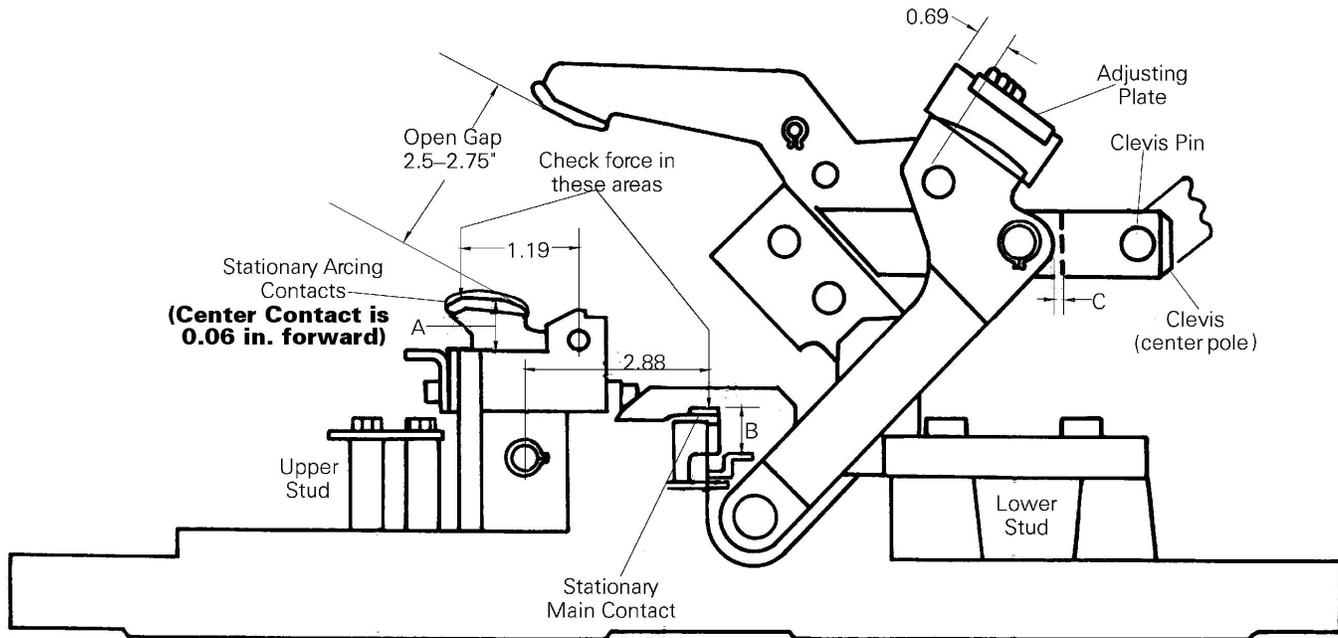

Figure 24. Measuring contact force and adjusting contact wipe.
5. Set the cross bar to the 0.69 dimension shown in Figure 24. Check that all three poles of the movable arcing contacts are touching the stationary arcing contacts to within .03 inch.
Place a push scale on the stationary arcing contact at a point 1.19 inch from the contact pivot, as illustrated in Figure 24, and depress the contact 0.25 inch. The load on the scale should be within the range listed in Table 5. If the load is not within the correct range, replace the spring under that contact assembly.
Place a push scale on the stationary contact at a point 2.88 inch from the contact pivot, as illustrated in Figure 24, and depress the contact to the wipe dimension listed in Table 5. The load on the scale should be within the range listed in Table 5. If the load is not within the correct range, replace the spring under that contact assembly.
Use the following procedures to measure and adjust contact wipe. Refer to Figure 24 for dimensions and measuring points. All contact adjustments must be performed with the opening springs disconnected, as illustrated in Figure 8.
If adjustment is required, increase or decrease dimension C in Figure 24 to increase or decrease contact wipe, respectively, on the center pole.